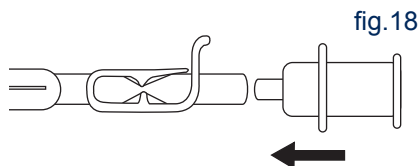

fig.18
3. Insert a breath bag mouthpiece into the bag inlet tube of the breathbag. (fig. 18)